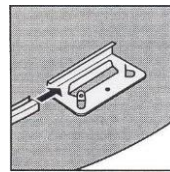

fig. 11
f) Place the bottom blue curved guides (PCA) on the motherboards (T1). Leave a space of about +/- 9 mm, fig. 11, 12, 13, between the edge of each guide. Check your pool measurements with a meter, fig. 14.